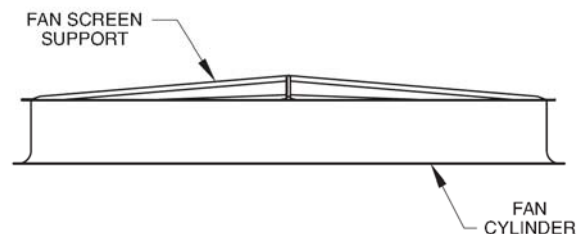

Figure 21 - Support Frame Installation
1. Set the support frame across the top of the discharge cylinder (See Figure 21).